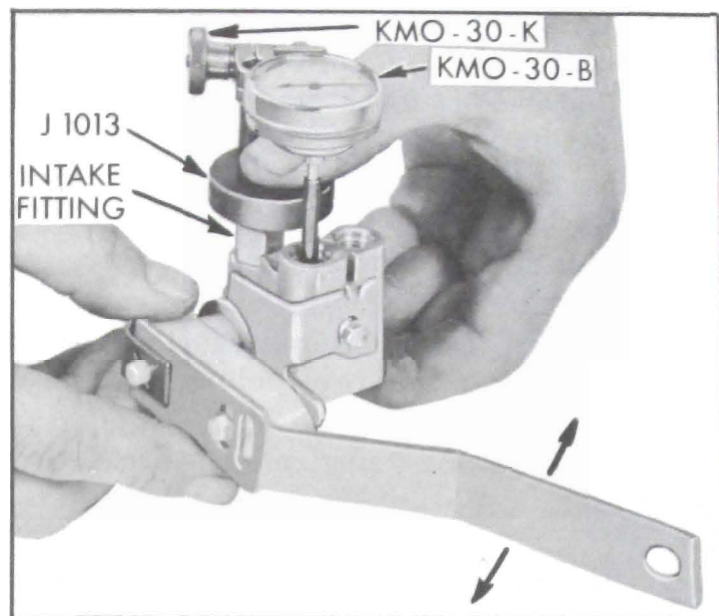

Figure 7-42—Checking Intake Core Travel
(4) Install exhaust valve core clip carefully to avoid bending core stem.
(5) Install the long extension, J-5339, on the dial indicator.
(6) Install intake fitting in air spring fitting opening in valve body. The air spring fitting opening is farthest from intake core.
(7) Check intake core travel, mounting J-1013 on top of intake fitting. See Figure 7-42.
(8) Set the indicator to zero and move the